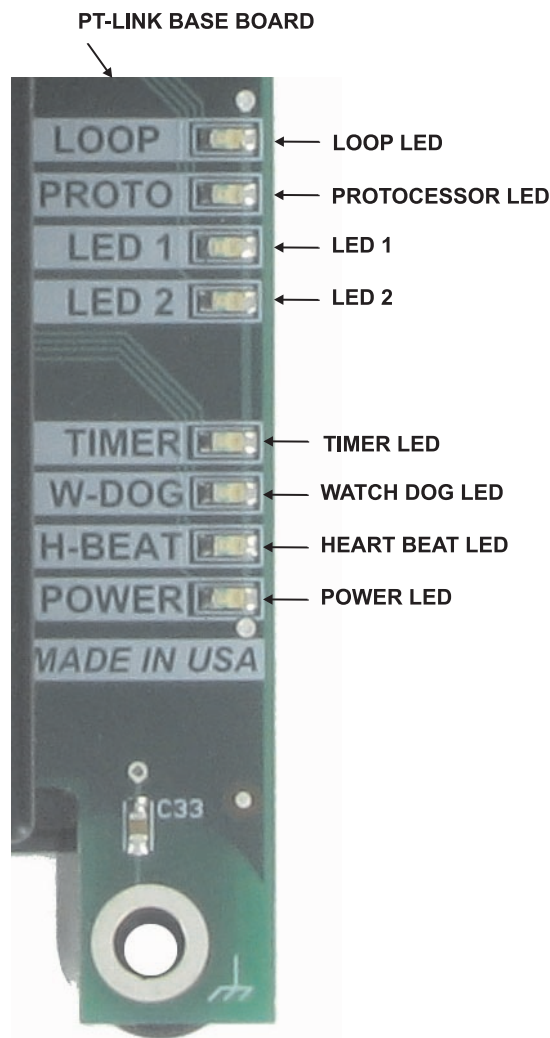

Figure 17: PT-Link II BACNET® LED Locations
- Visual observations of LEDs on PT-Link. (Figure 17, page 20)
The PT-Link II BACnet® is equipped with LEDs that can be used for troubleshooting. There are eight LEDs on the PT-Link board. See **Figure 17** for the locations of the LEDs on the PT-Link board. The LED descriptions and functions are listed in the following paragraphs.